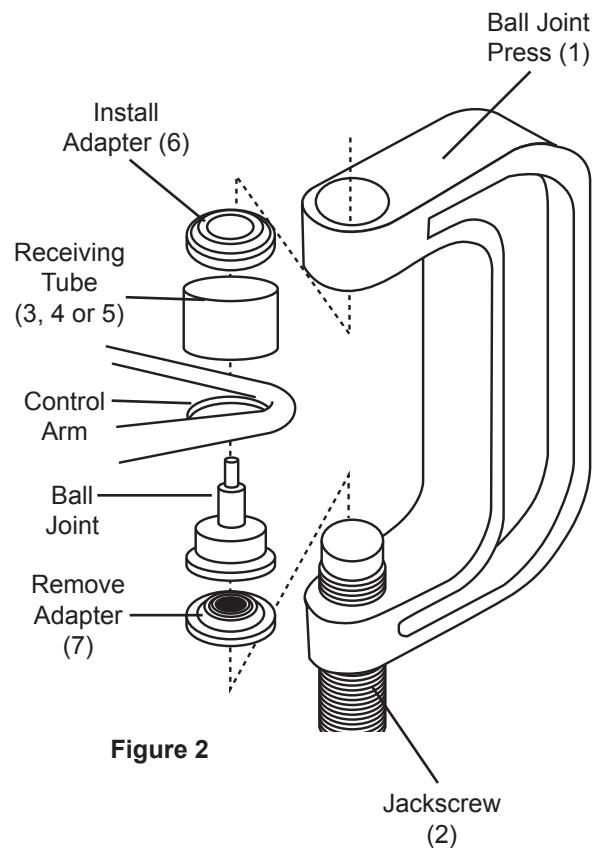

Figure 2
3. Assemble the Ball Joint Press over the vehicle's control arm. Select the correct size Receiving Tube and position it on top of the vehicle's control arm. See Figure 2, below.